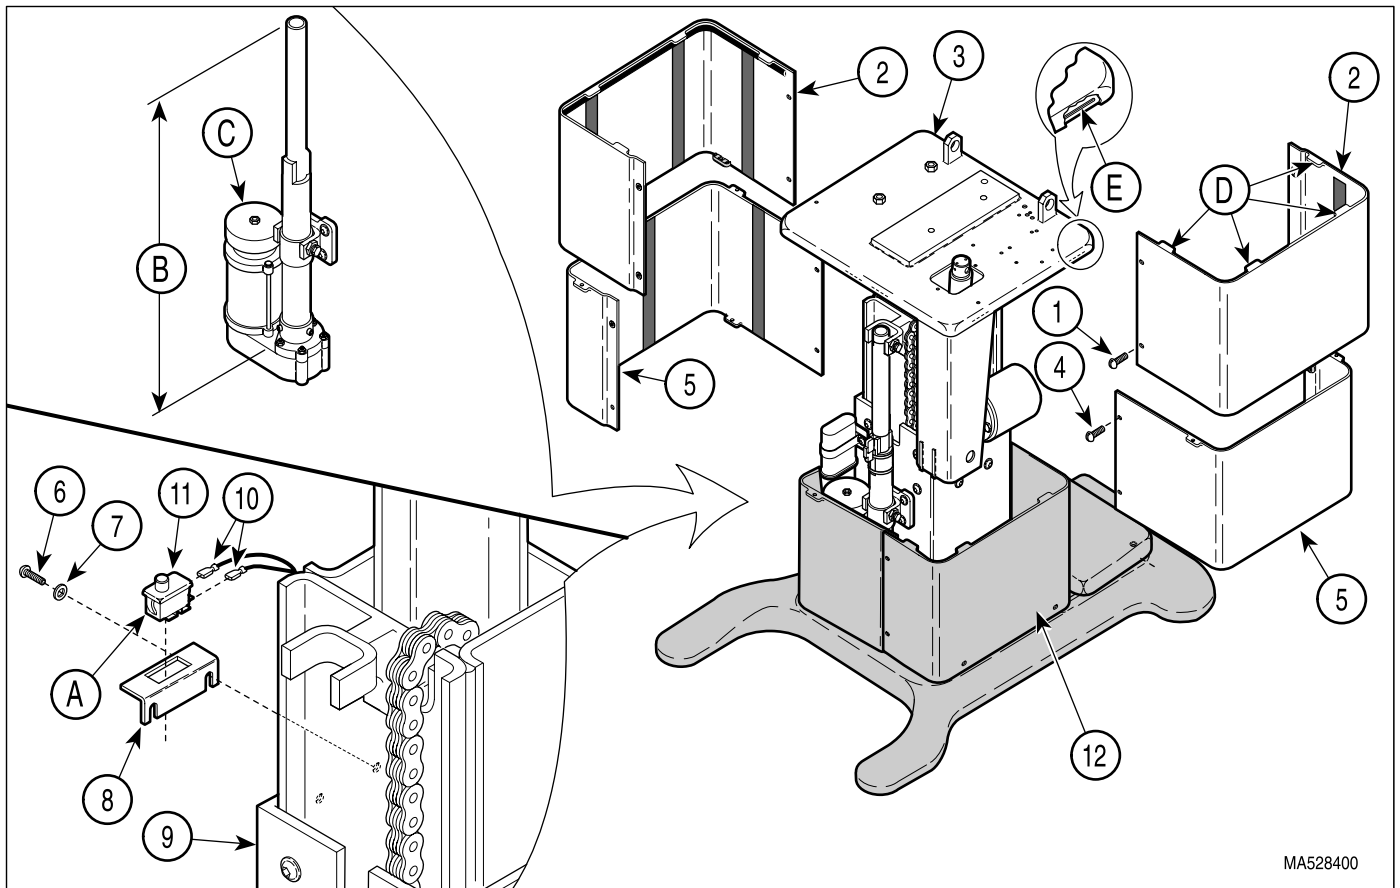

Figure 4-25. Base Down Limit Switch Removal / Installation / Adjustment
- (1) Unplug table power cord from outlet receptacle.
- (2) Remove four screws (1, Figure 4-25) and R.H. and L.H. outer shrouds (2) from column adapter weldment (3).
- (3) Remove four screws (4) and R.H. and L.H. middle shrouds (5).
- (4) Remove two screws (6), two washers (7), and partially remove switch bracket (8) from column weldment (9).
- (5) Tag and disconnect two wires (10) from terminals of base down limit switch (11).
- (6) While simultaneously pressing on two locking tabs (A) of base down limit switch (11), push switch out of switch bracket (8)